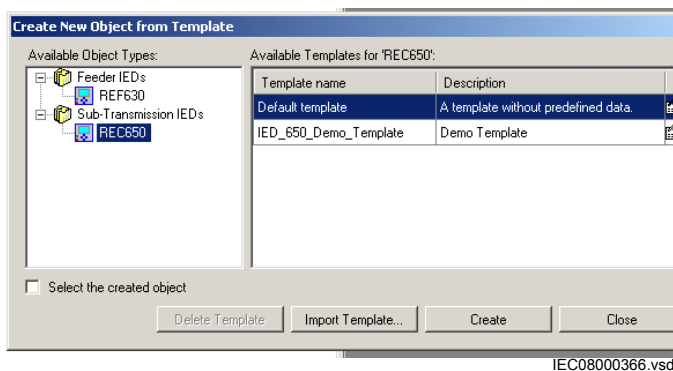

Figure 27: PCM600: Selecting IED from template library
2. Select *New* and *Create from Template ...* to open the *Create New Object from Template* window, see Figure 27.
- Click *Delete Template* to delete the template, click *Import Template* to import a template from the selection window or click *Create* to insert the selected IED to the bay, see Figure 27.